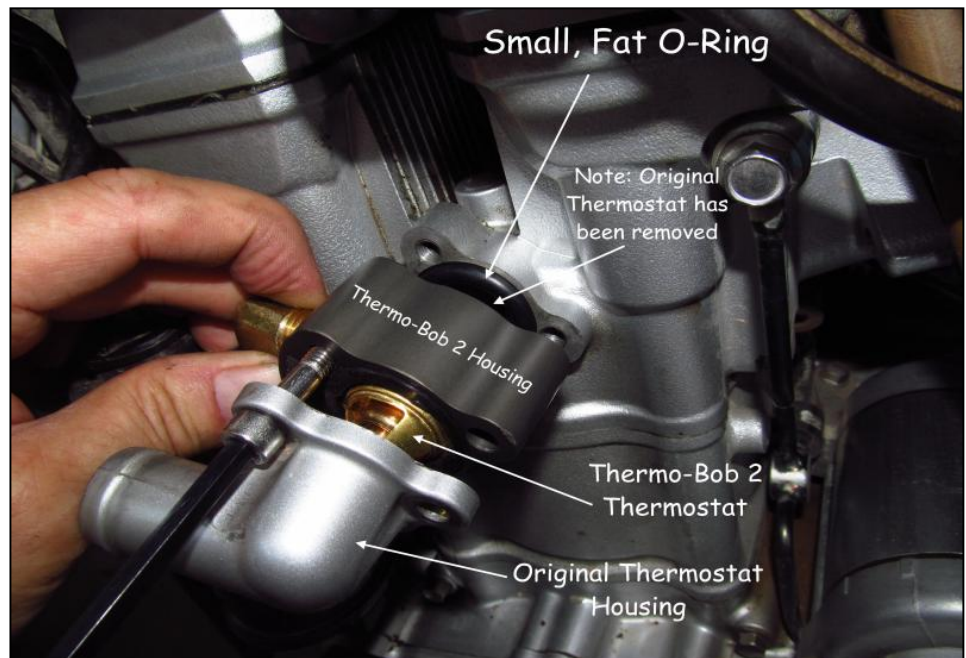

Figure 9. Install Thermo-Bob 2 Housing as shown.
8) As shown in **Figure 9**, place the supplied small, fat o-ring in place of the original Kawasaki thermostat, place the Thermo-Bob 2 housing (with TB2 thermostat already installed per **Figure 8**) on top of that, and